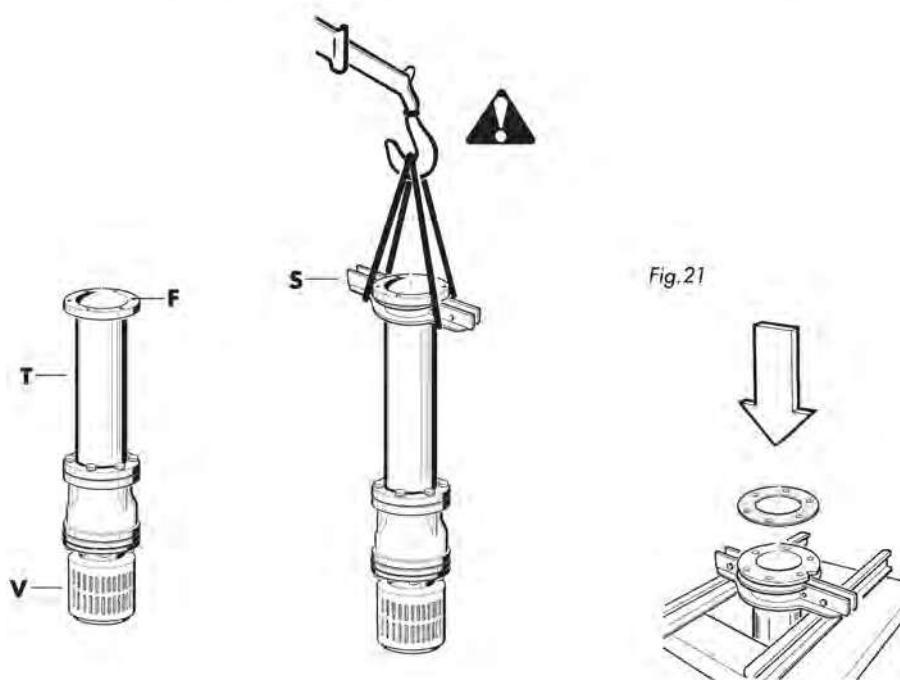

Fig.21
- Using suitable lifting equipment (crane or other), lift the intake pipe (T) complete with foot valve (V) by means of a bracket (S) hooked under the pipe flange (F) (equipment provided by assembler). (Fig.21)